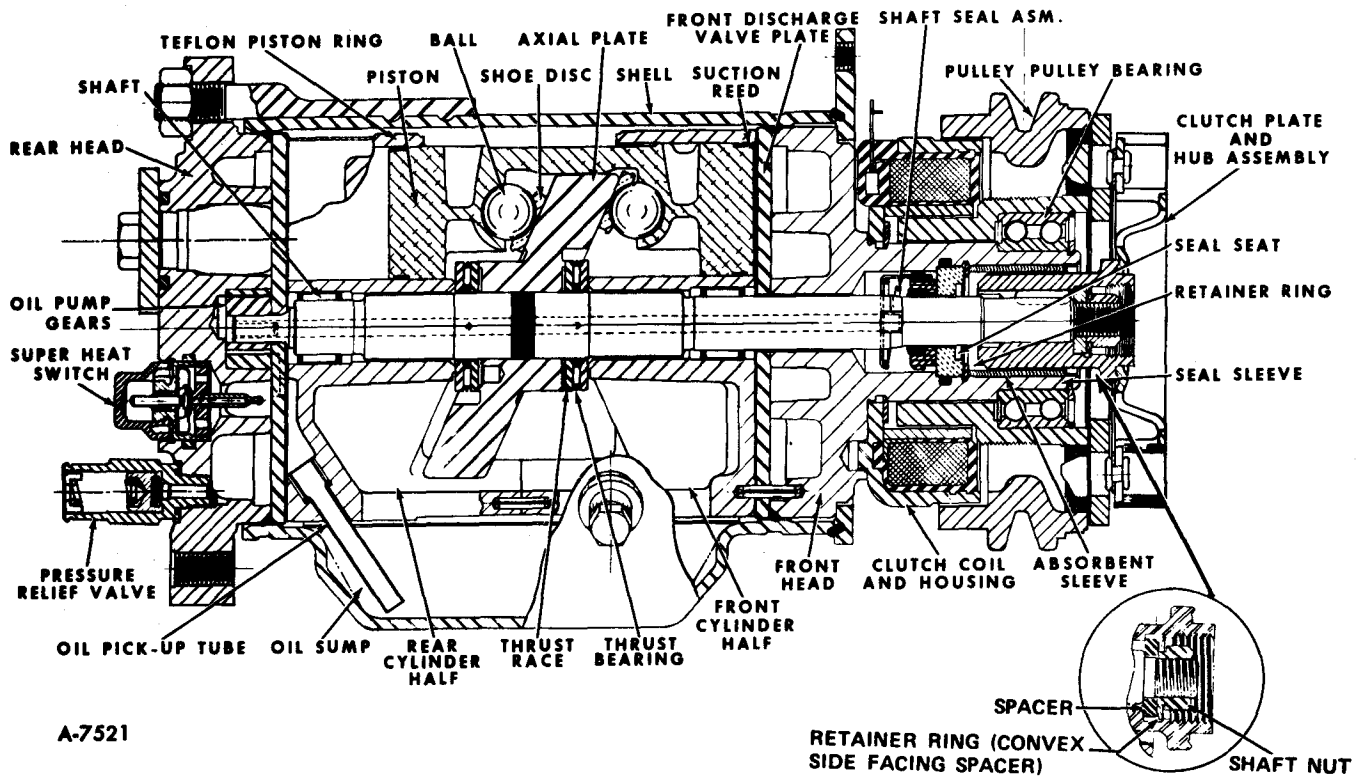

Figure 68—Sectional View of Compressor
5. Install the hub spacer and, using Snap-Ring Pliers J-5403 (#21), install the retainer ring (see installed retainer ring in inset of figure 68), with convex side of ring facing spacer.